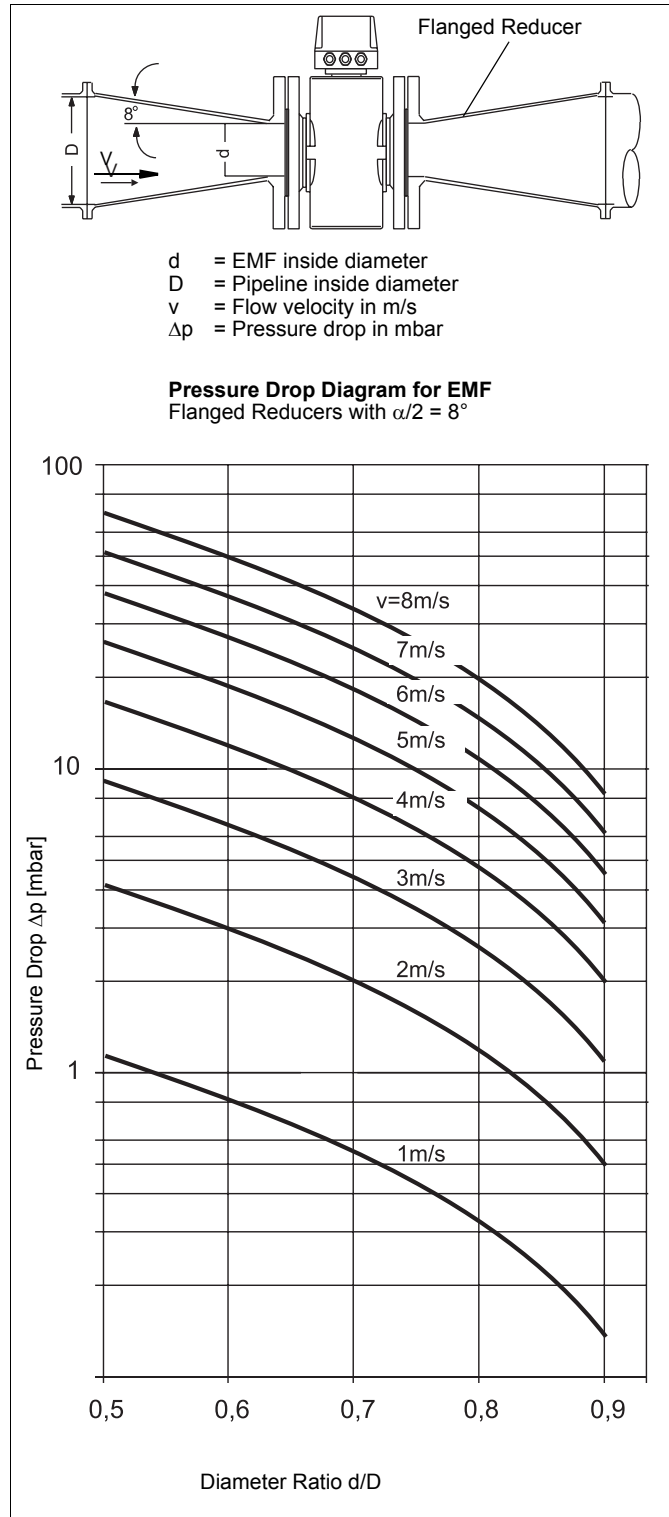

Fig. 12 Nomograph for Pressure Drop Determinations
The flowmeter can readily be installed in larger size pipelines through utilization of flanged transition sections. The pressure drop resulting from the reduction can be determined from the Diagram Fig. 12 using the following procedure:
3. The pressure drop can be read on the -Y- axis at the intersection of the flow velocity value and the "Diameter Ratio d/D " value on -X- axis in Fig. 12.